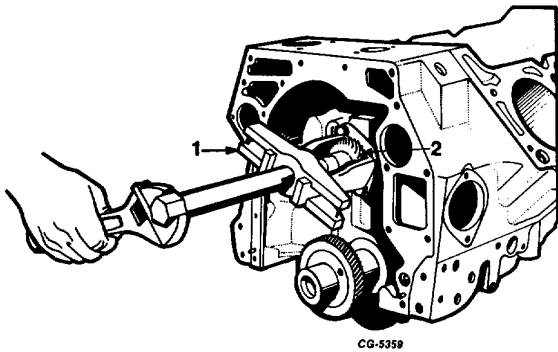

Fig. 66
d. Remove distributor gear using SE-1368 Puller and SE-1368-5 Fingers, Figure 66.